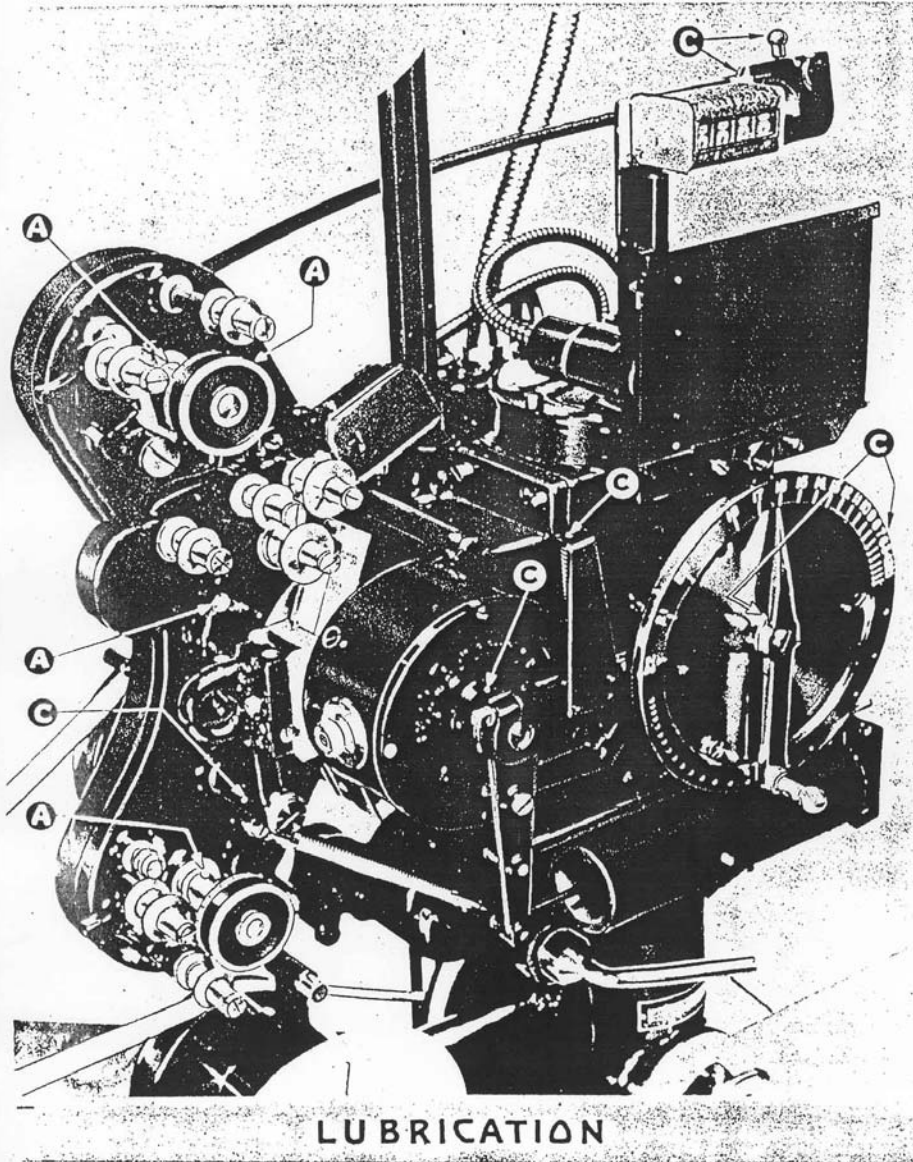

FIGURE 8
1. Figures 8 and 9 A, B, C, D, E clearly indicate the points to be lubricated, and the following chart gives the necessary information.
- 3.* The film rollers shown in figure 8 should be removed from the studs on which they revolve, thoroughly cleaned, and both the shafts and inner bearing surface re-oiled. These rollers must revolve absolutely free.